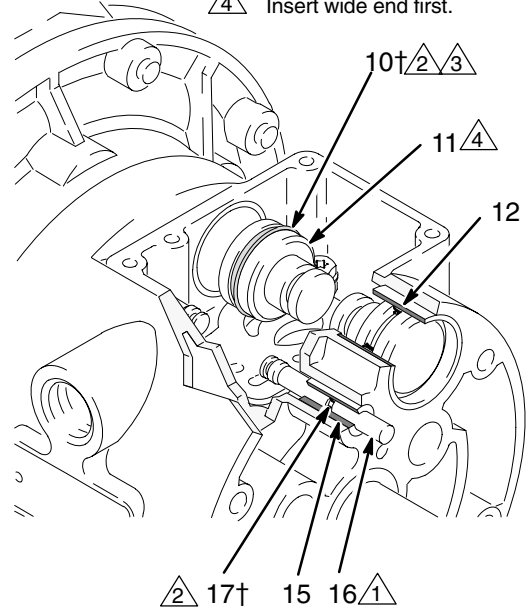

Fig. 10
4. Pull the two actuator pistons (11) out of the bearings (12). Remove the u-cup packings (10) from the pistons. Pull the pilot pins (16) out of the bearings (15). Remove the o-rings (17) from the push pins. See Fig. 10.
6. Inspect the bearings (12, 15) in place. See Fig. 10. The bearings are tapered and, if damaged, must be removed from the outside. This requires disassembly of the fluid section. See page 22.
4. Install an o-ring (17†) on each pilot pin (16). Grease the pins and o-rings. Insert the pins into the bearings (15), **narrow** end first. See Fig. 10.
5. Install a u-cup packing (10†) on each actuator piston (11), so the lips of the packings face the **narrow** end of the pistons. See Fig. 10.
6. Lubricate the u-cup packings (10†) and actuator pistons (11). Insert the actuator pistons in the bearings (12), **wide** end first. Leave the narrow end of the pistons exposed. See Fig. 10.